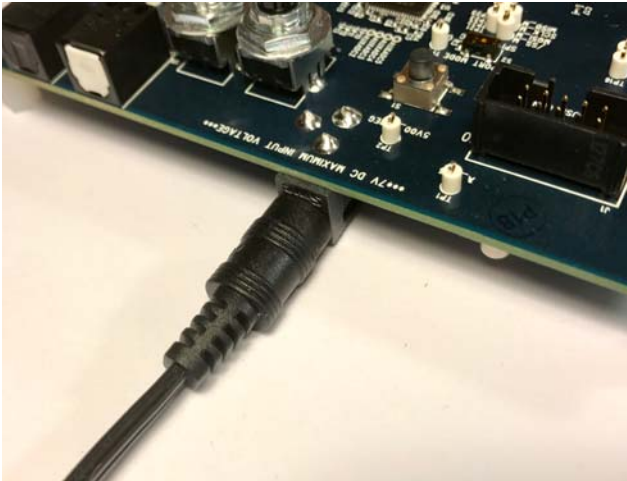

Figure 9. Connecting the Power Supply
2. Connect the female plug of the power supply to the J4 male connector on the EVAL-ADAU1466Z, as shown in Figure 9.